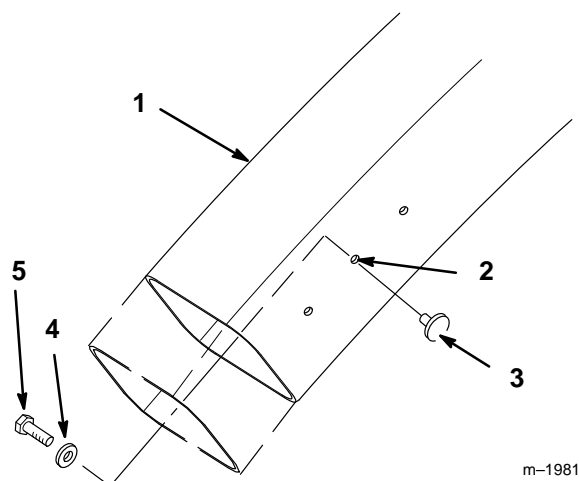

Figure 13
1. Cut 2-3/4" (7 cm) off the bottom of the discharge tube (Fig. 13).
1. Attach the knob to the center hole in the discharge tube and secure with a 7/32" washer and #10-24 x 5/8" (16 mm) screw (Fig. 13).